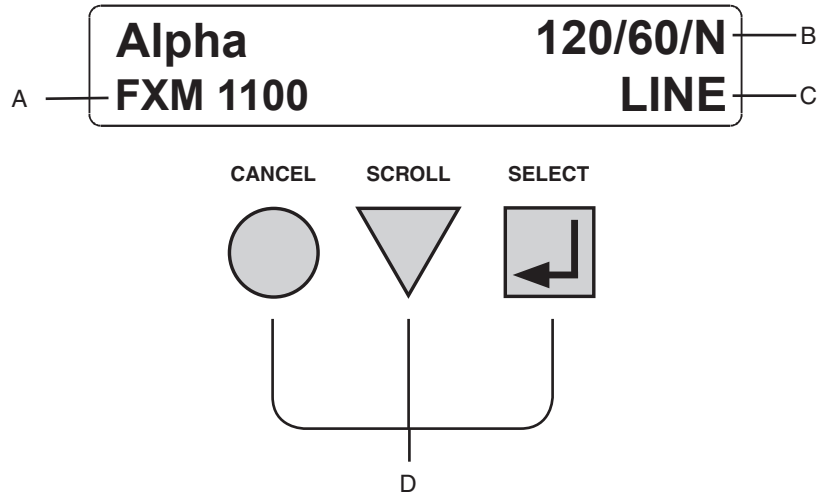

Figure 7.1 – LCD Control Panel (Logo Screen shown)
The LCD control panel provides “at a glance” monitoring. This panel, when used along with the **CANCEL**, **SCROLL** and **SELECT** buttons below it, lets you program, make measurements and troubleshoot the FXM. The layout is shown in Figure 7.1 below.
1. If the FXM is in Line, Buck or Boost mode (See Figure 7.1) go to the control submenu to switch it into Inverter Bypass (See page 40; see also the Control Panel Tutorial below). If the FXM is not in these modes, wait until the line is qualified before you continue.